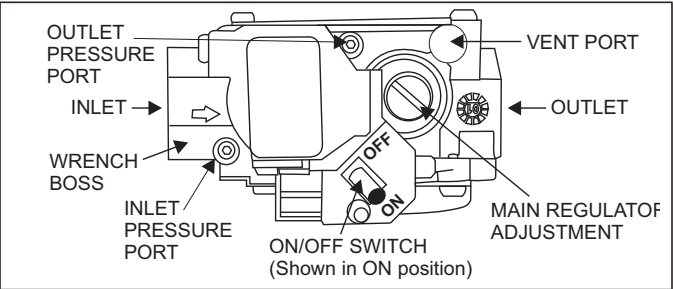

FIGURE 40: Gas Valve
Inlet and manifold gas pressure may be measured by connecting the "U" tube manometer to the gas valve with a piece of tubing. Follow the appropriate section in the instructions below. Refer to Figure 40 for the locations of the pressure ports on the gas valve.
Connect the positive side of the manometer to the IN P Tap on the gas valve. Do not connect any tubing to the negative side of the manometer, as it will reference atmospheric pressure. Refer to Figures 40 and 41 for connection details.
Connect the positive side of the manometer to the OUT P Tap on the gas valve. Do not connect any tubing to the negative side of the manometer, as it will reference atmospheric pressure. Refer to Figures 40 and 41 for connection details.
- 1. Refer to Figure 40 for location of pressure regulator adjustment cap and adjustment screws on main gas valve.